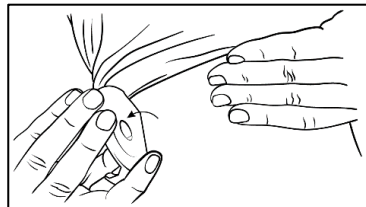

Figure 11 Remove Clip
4. Hold down your skin and gently peel away the adhesive until it is fully detached as shown in Figure 11.